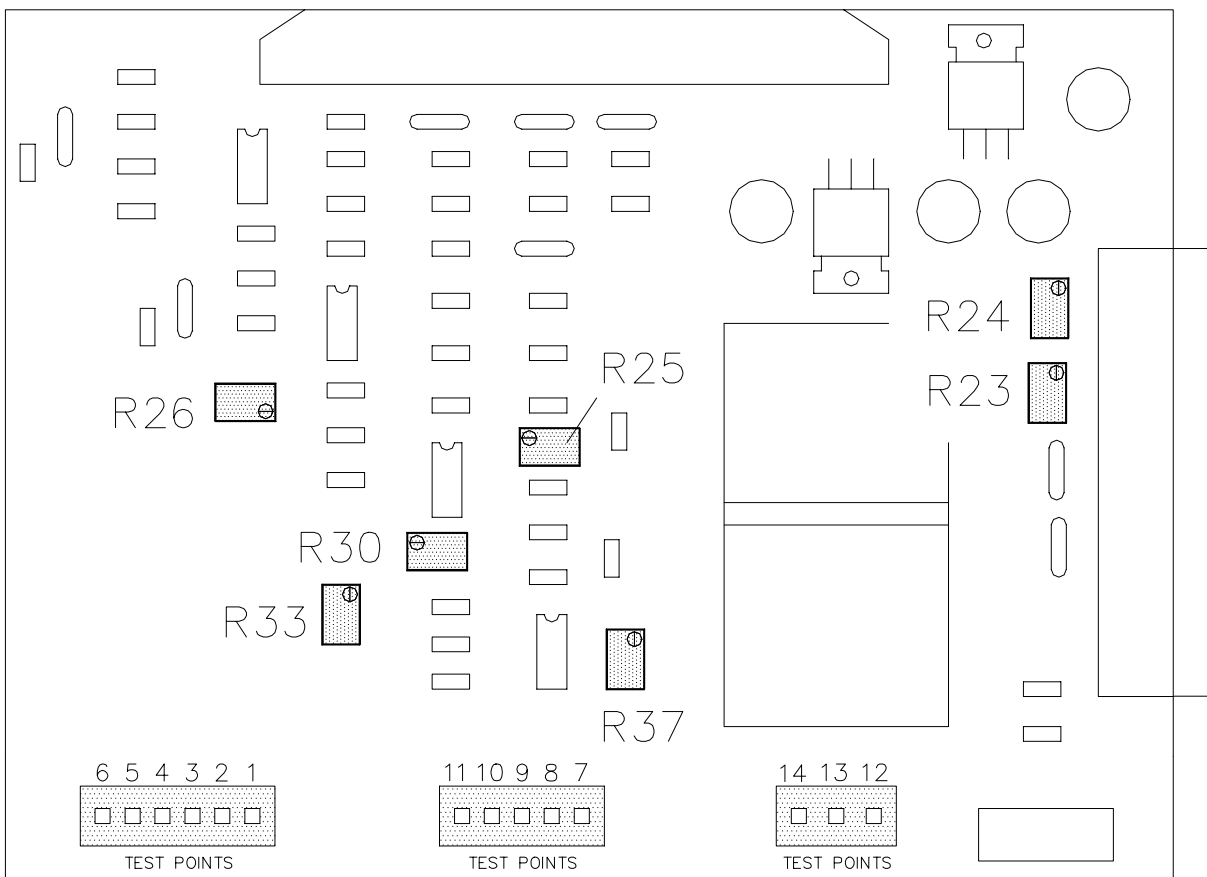

Figure 4-7 Status Monitor Analog Interface Board Component Layout
3. Connect the DVM between test points TP7(+) and TP14(GND) of the Analog Interface Board inside the SSM chassis (see Figure 4-7 for the component layout of the Analog Interface Board).
2. Connect the DVM between TP7(+) and TP14(GND) on the SSM Analog Interface Board located in the chassis of the unit (see Figure 4-7).
4. Connect the ground lead of the DVM to test point TP14(GND) on the SSM Analog Interface Board, and the positive lead to TP10(+). See Figure 4-7 for the location of these test points.